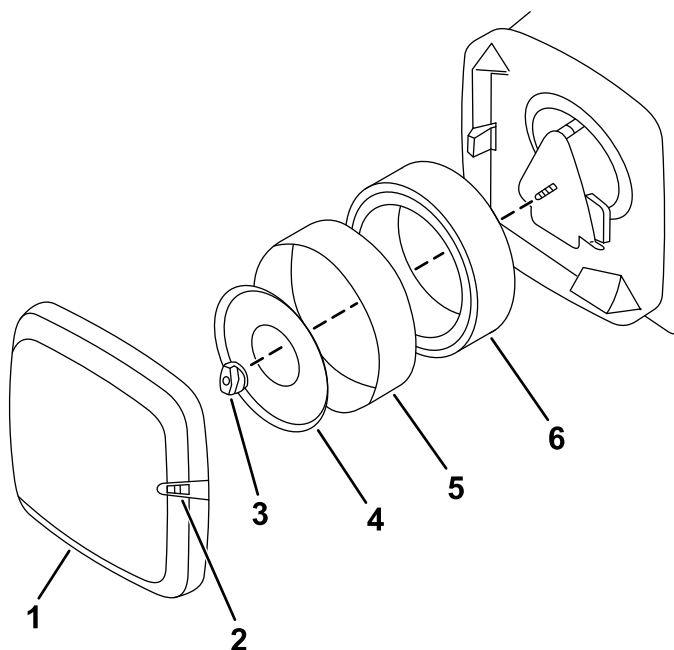

Figure 68
2. Remove the foam pre-cleaner from the paper element. (Figure 68).
2. Unhook the clips on the air-cleaner cover and remove the cover (Figure 68).
3. Remove the knob and plate (Figure 68).
5. Install the new foam pre-cleaner on to the new cartridge (Figure 68).
6. Install the air-cleaner assembly, plate, and knob in the body (Figure 68).
7. Install the cover and secure it using the clips (Figure 68).